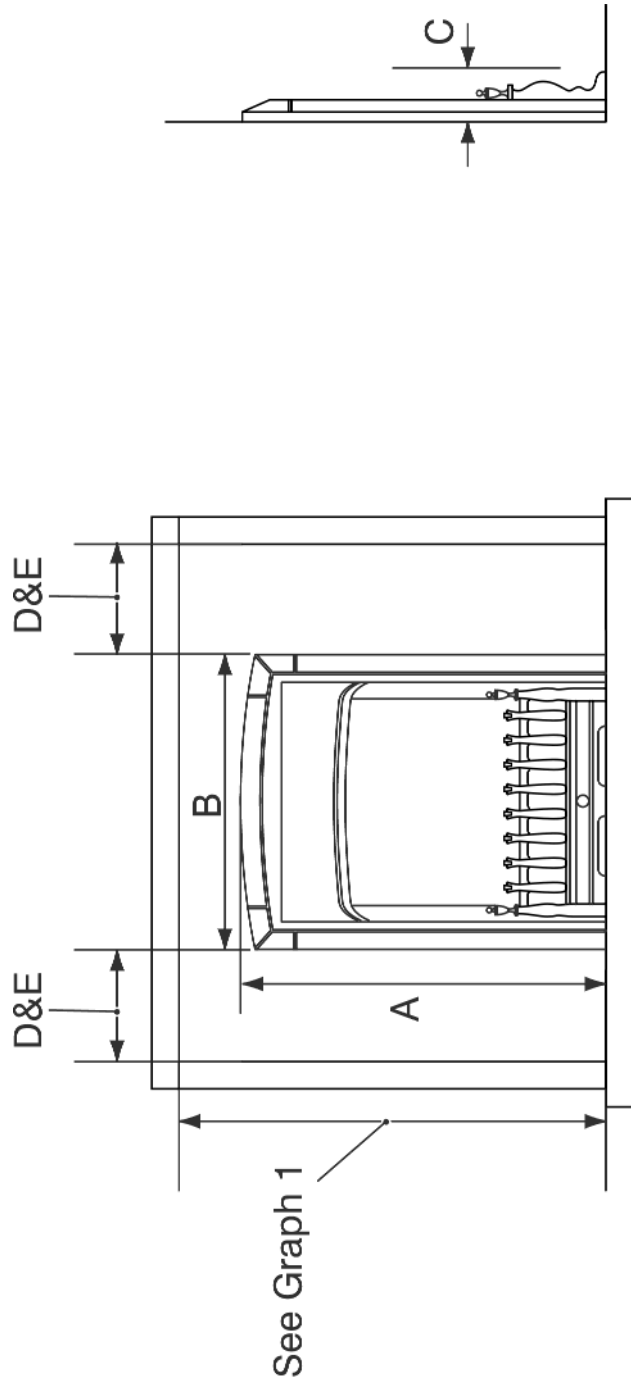

Figure 5. Appliance dimensions and clearances - SEE TABLE ON NEXT PAGE (Fascia may differ from that shown)
4.20 The minimum allowable distance from the outside of the appliance fascia to a corner wall having combustible material or any other combustible surface which projects beyond the front of the appliance is shown in figure 5.
Figure 5 continued. Appliance dimensions and clearances